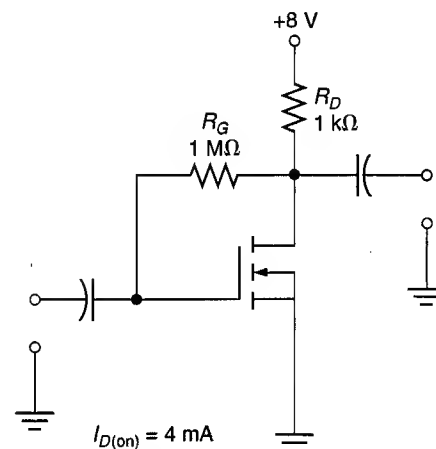

FIGURE 13.32
14. Calculate the values of I_D and V_{DS} for the amplifier in Figure 13.32.